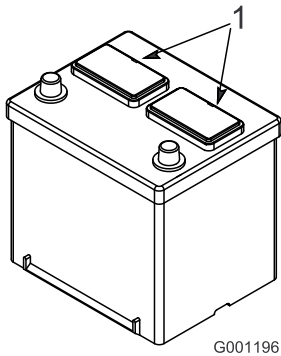

Figure 3
- Clean the top of the battery and remove the vent caps (Figure 3).